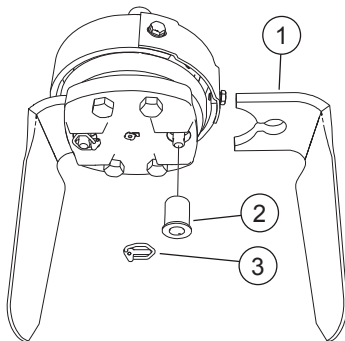

FIG. 38
- Remove split pin (3, "Fig. 38").
- Take bushing out (2).
- Take blade out (1).